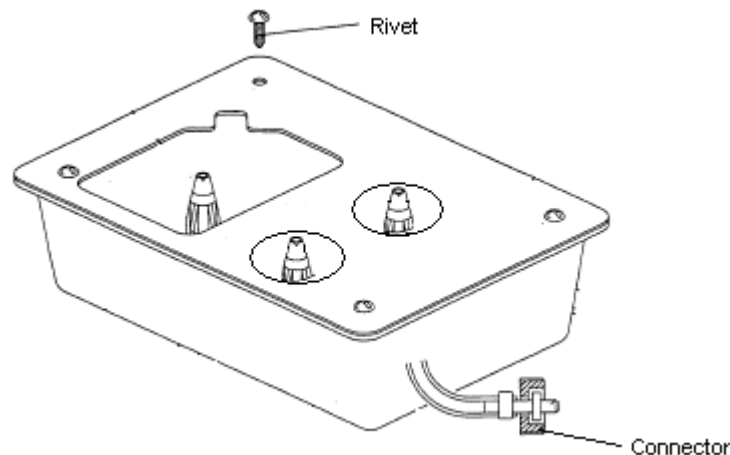

Figure 1
- [3] Lift the DEVELOPER BASIN ASSEMBLY partly up to access and disconnect the CONNECTOR for the bottle wash from the AUTOMIXER II PLUS (see figure 1).